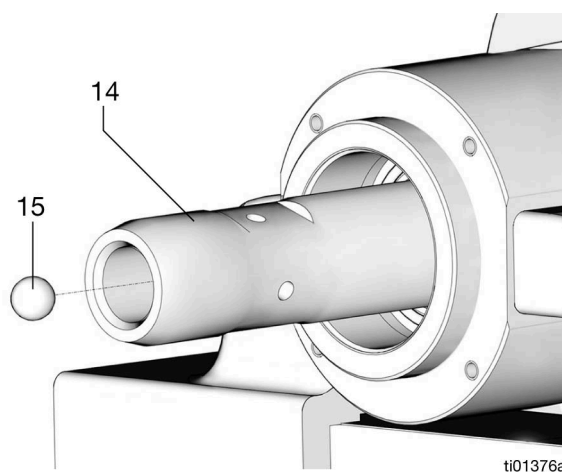

FIG. 23
- Replace the check ball (15) between the displacement rod (14) and the fluid piston (9) (FIG. 23).